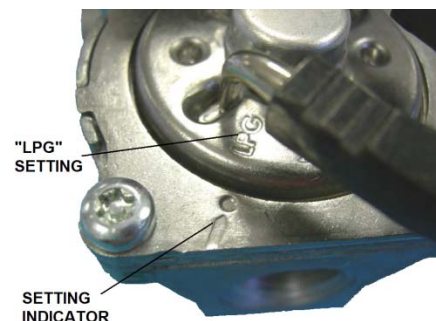

FIGURE 7
20. Rotate cover dial 25 degrees counter clockwise lining up "LPG" marking with the indicator on the gas valve. See *Figure 7*.